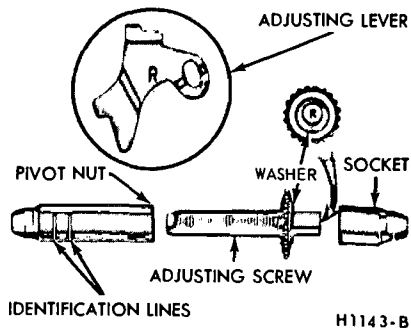

FIG. 15—Adjusting Screw and Lever Identification
Interchanging the brake shoe adjusting screw assemblies from one side of the vehicle to the other would cause the brake shoes to retract rather than expand each time the automatic adjusting mechanism operated. To prevent accidental installation of the adjusting screw on the wrong side of the vehicle the socket end of the adjusting screw is stamped with an R or L (Fig. 15). The adjusting pivot nuts can be distinguished by the number of grooves machined around the body of the nut. Two grooves indicate a right-hand nut; one groove indicates a left-hand nut.
9. Hook the cable hook into the hole in the adjusting lever. The adjusting levers are stamped with an R or L to indicate their installation on a right or left brake assembly (Fig. 15).